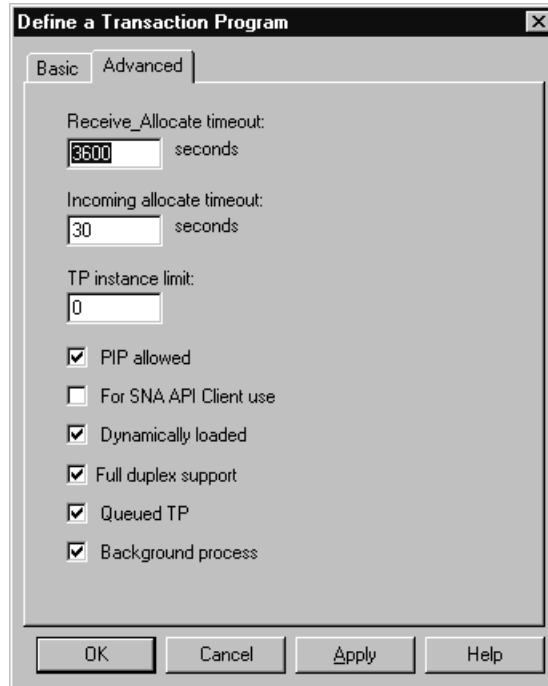

Figure 88. Define a transaction program window: advanced page
- a. In the entry fields enter the same values that are shown in Figure 88.